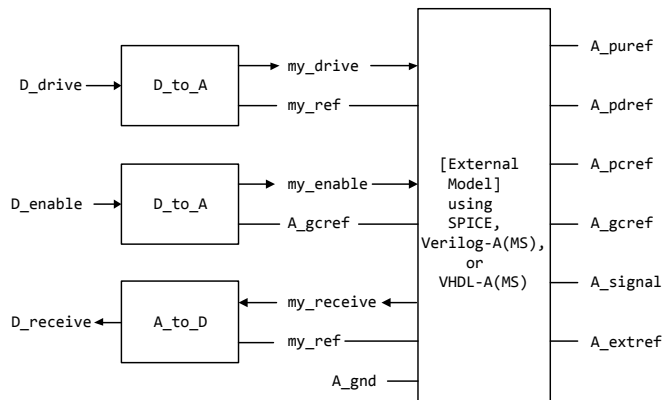

Figure 24 - Example of an [External Model] I/O Buffer Using SPICE, Verilog-A(MS), or VHDL-A(MS)
A conceptual diagram of the port connections of a SPICE, IBIS-ISS, Verilog-A(MS) or VHDL-A(MS) [External Model] is shown in Figure 24. The example illustrates an I/O buffer. Note that the drawing implies that the D_receive state changes in response to the analog signal my_receive, not A_signal: